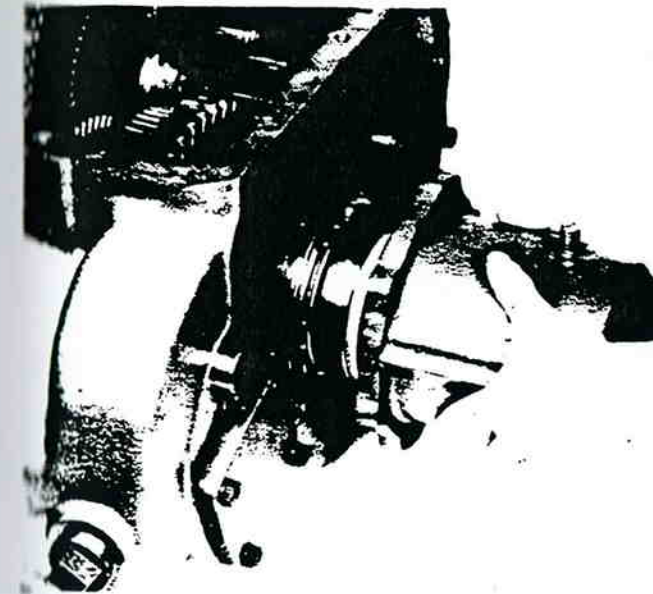

Figure 13-18. Bearing Cover Removal.
- 1 Remove the bearing cover from output shaft (figure 13-18).